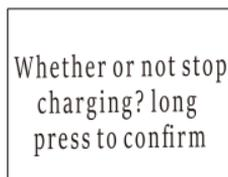

Fig.3
5.3.1 For emergency power off, please press and hold  for 3 seconds (Fig.3), and then press and hold  again to confirm to stop charging.